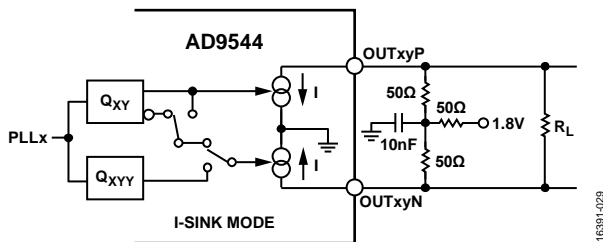
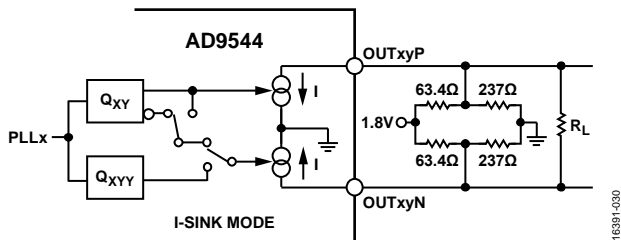

Figure 34. LVDS-Compatible Output, 1.24 V Common-Mode, T Network ($I = 7.5$ mA; $I = 15$ mA with Extra 100 Ω Termination, R_L)
Figure 35. LVDS-Compatible Output, 1.2 V Common-Mode, Thevenin Bias Network ($I = 7.5$ mA; 15 mA With Extra 100 Ω Termination, R_L)
- The 15 mA mode produces a voltage swing and is compatible with LVPECL. If LVPECL dc signal levels are required, the designer must ac couple and rebias the AD9544 output. The 15 mA mode can also be used with the termination scheme shown in Figure 34 and Figure 35 to produce an LVDS signal with the correct LVDS dc bias.